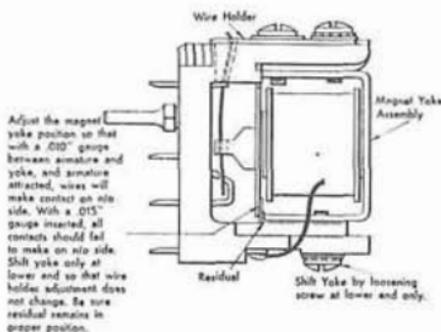

Figure 19
- Figure 19. Adjust the magnet yoke assembly so that with a $.010"$ thickness gauge between the armature and yoke at the free end of the armature, and the armature attracted, all con-